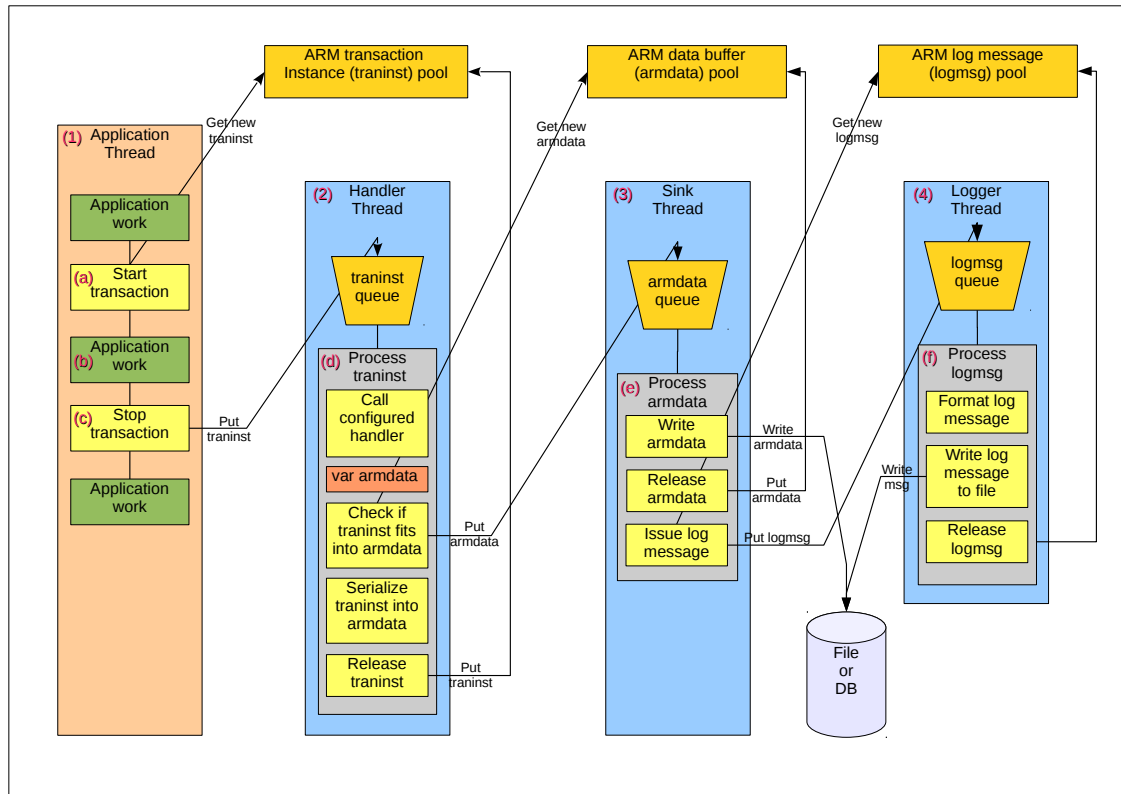

Figure 3.4: Agent data processing thread pipeline
- Minimal influence to the instrumented application using a threading pipeline (Figure 3.4) for processing the ARM data within the instrumented application
The MyARM agent implementation measures and processes timing information about the instrumented application. To minimize the interference the MyARM agent implementation uses a threading pipeline as shown in Figure 3.4 to process the measured data.
A typical ARM response time measurement (ARM transaction) is shown in Figure 3.4 with the following letters in parenthesis: